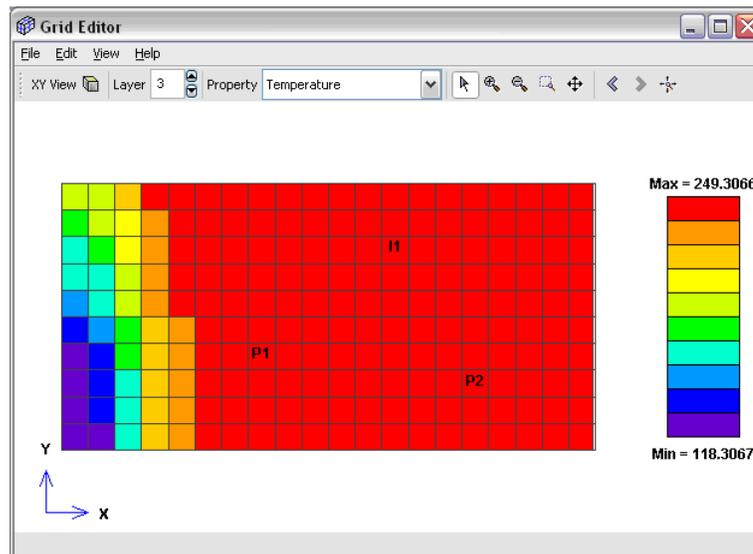

Figure 3.16. The cells to select and name
3. Right-click on the cell named **P1** as shown in Figure 3.16 and click **Properties**.